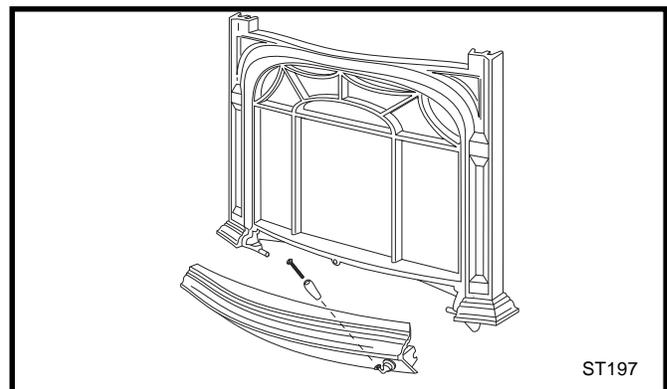

Fig. 25 Attach the handle to the control door.
- Attach the wooden handle to the control door using the #8-32 x 2" screw from the parts bag. (Fig. 25)